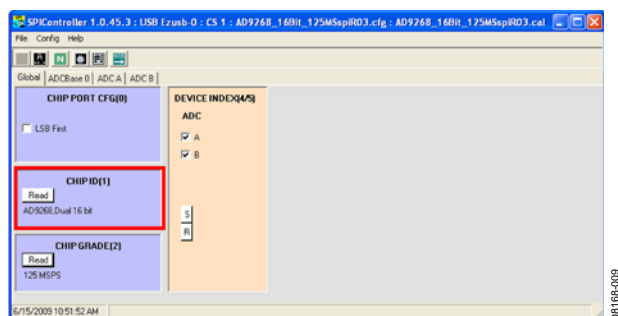

Figure 10. SPI Controller, CHIP ID(1) Box
1. Open the SPI controller software by going to the **Start** menu or by double-clicking the **SPIController** software desktop icon. If prompted for a configuration file, select the appropriate one. If not, check the title bar of the window to determine which configuration is loaded. If necessary, choose **Cfg Open** from the **File** menu and select the appropriate file based on your part type. Note that the **CHIP ID(1)** field should be filled to indicate whether the correct SPI controller configuration file is loaded (see Figure 10).